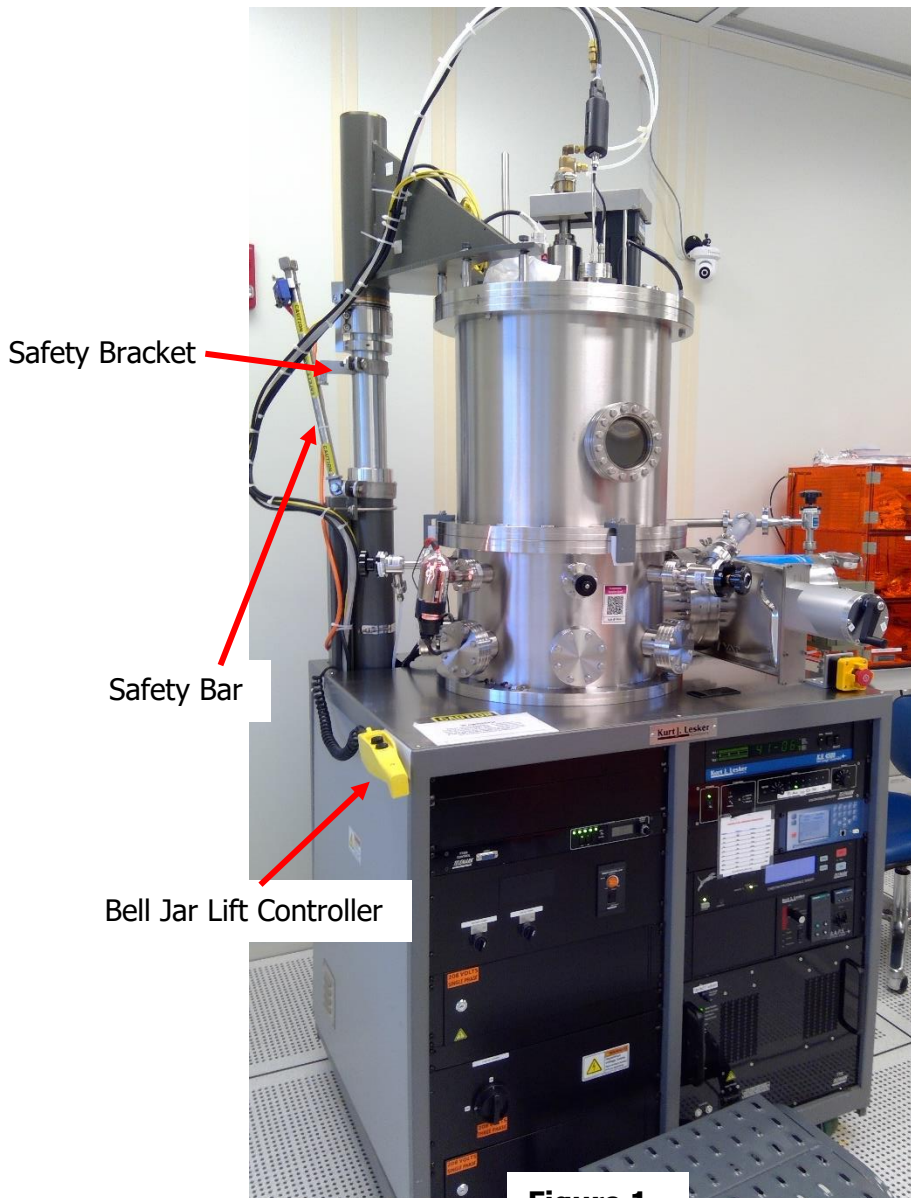

Figure 1
- 4.6.2 Raise bell jar about 18 inches, making sure the safety bar clears the safety bracket, using the bell jar lift controller to allow access to the sample loading station (Figure 1).